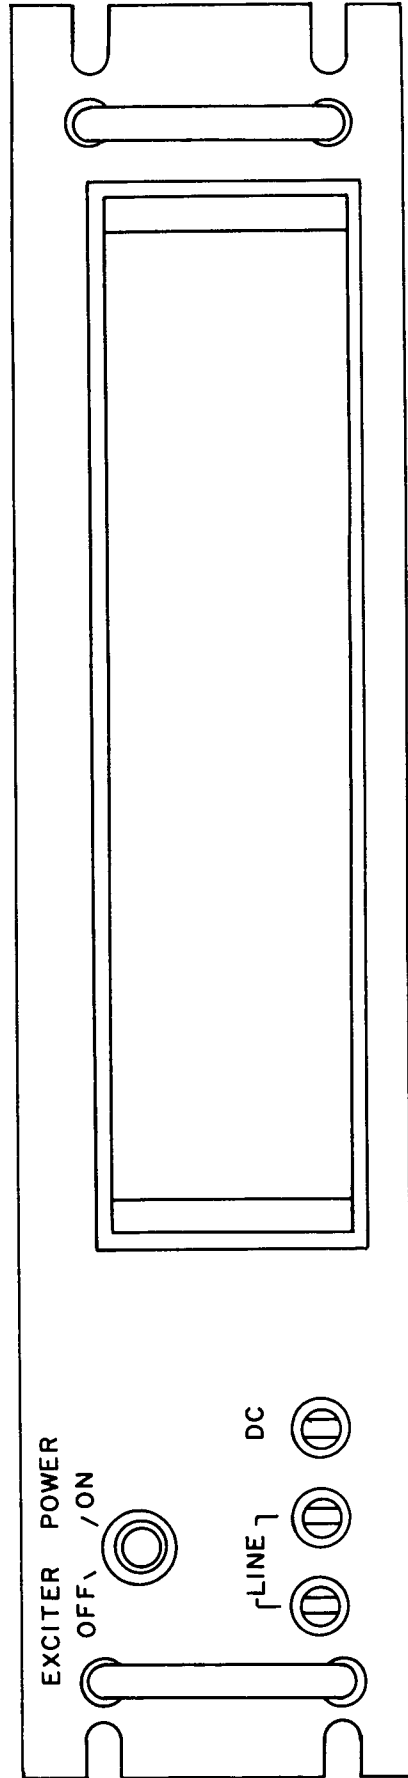

FIGURE 1-1. FRONT VIEW OF EXCITER DRAWER, MODEL AX687
- 1) Figure 1-1, is no longer applicable, see line drawing attached to addendum.